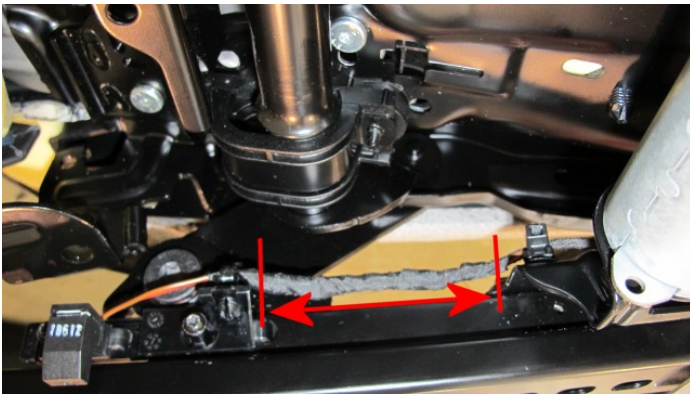

Figure 22
**NOTE:** As a guideline and prior to cutting the cables the loom once spliced should be positioned as shown in Figure 22
**IMPORTANT:** The splice connectors should be positioned/stowed within the area shown in Figure 22